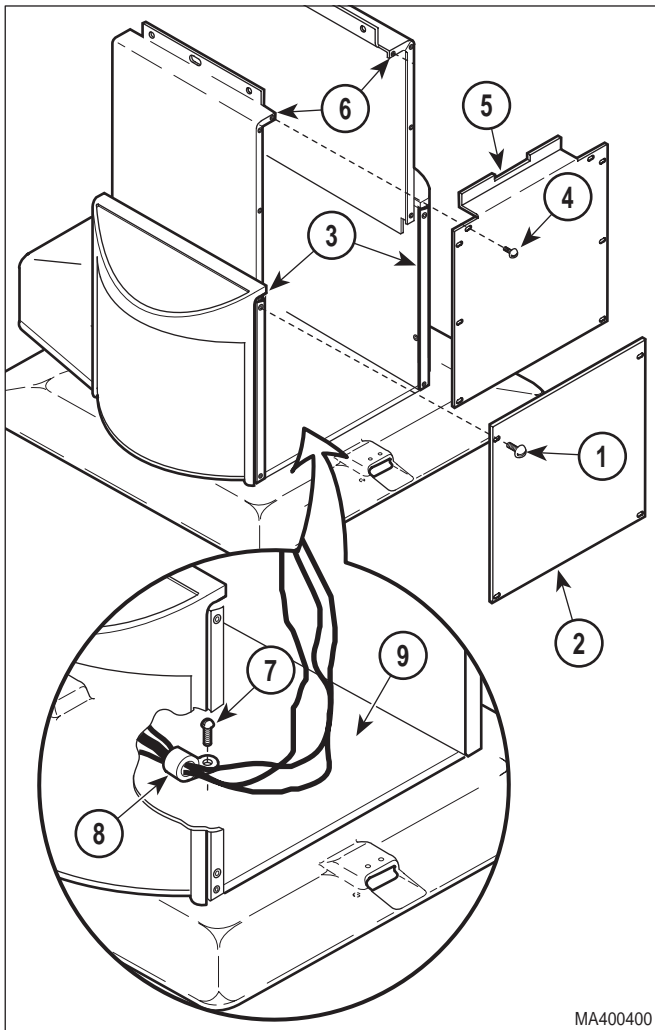
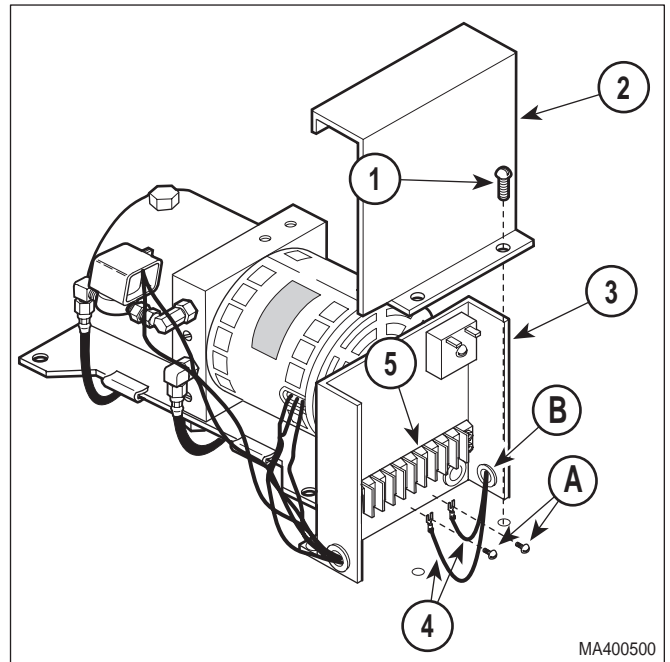
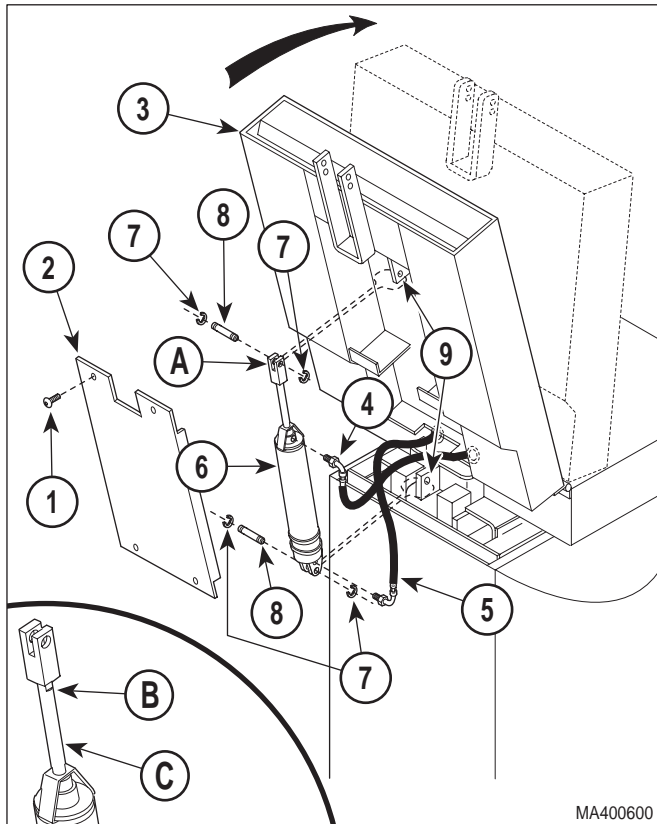

Figure 4-11. Table Access
Figure 4-12. Back Cylinder Wires Disconnection / Connection
Figure 4-13. Back Cylinder Removal / Installation
- (1) Unplug table power cord from outlet.
- (2) Remove upholstered seat section (Refer to steps 6 thru 8 of para 4.32).
- (3) Remove four screws (1, Figure 4-11) and front outer shroud (2) from left and right hand outer shrouds (3).
- (4) Remove eight screws (4) and front inner shroud (5) from left and right hand inner shrouds (6).
- (5) Remove screw (7) and wire clip (8) securing wires and hoses to base weldment (9).
- (6) Remove motor cover assembly (Refer to para 4.2).
- (7) Remove two screws (1, Figure 4-12) and control cover (2) from control panel (3).
- (8) Loosen two terminal screws; then tag and disconnect back cylinder wires (4) from terminal block (5).
- (9) Pull back cylinder wires (4) out thru wire hole.
- (10) Remove four screws (1, Figure 4-13) and back cover (2) from back weldment (3).
- (11) Cut two cable ties which are securing hose assemblies (4 and 5) to back cylinder (6).
- (12) While supporting back weldment (3), remove four E-rings (7), two clevis pins (8), and partially separate back cylinder (6) from cylinder brackets (9). Fold back section over onto seat section.
- (13) Tag hose assemblies (4 and 5).
- (14) Disconnect hose assembly (4) from back cylinder (6).
- (1) Connect hose assembly (5, Figure 4-13) to back cylinder (6).
- (2) Connect hose assembly (4) to back cylinder (6).
- (3) Install back cylinder (6) on cylinder brackets (9) and secure with two clevis pins (8) through clevis (A) with four E-rings (7).
- (4) Secure hose assemblies (4 and 5) to back cylinder (6) with two cable ties.
- (5) Route back cylinder wires (4, Figure 4-12) thru table.
- (6) Feed back cylinder wires (4) thru wire hole.
- (7) Connect two back cylinder wires (4) to terminal block (5) and secure by tightening two terminal screws (A).
- (8) Install control cover (2) on control panel (3) and secure with two screws (1).
- (9) Secure wires and hoses to base weldment (9, Figure 4-11) with wire clip (8) and screw (7). Install any cable ties removed during removal.
- (10) Install front inner shroud (5) on left and right hand outer shrouds (6) and secure with eight screws (4).
- (11) Install front outer shroud (2) on left and right hand inner shrouds (3) and secure with four screws (1).
- (12) Install upholstered seat section (Refer to step 6 of para 4.32).
- (13) Plug table power cord into outlet.
- (14) Lower BACK DOWN function all the way down.